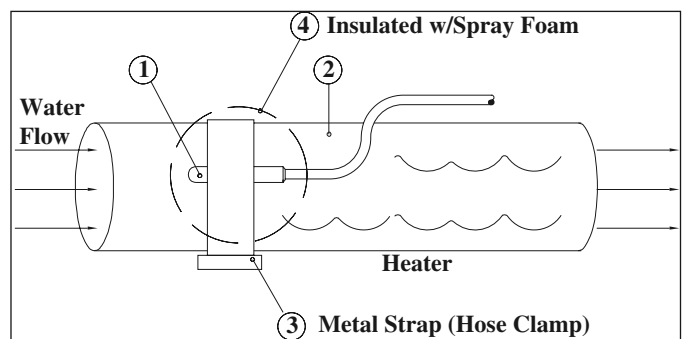

Figure 3: No thermal well cover
1. Locate and place the 1/4" x 1 1/2" high-limit sensor (#1) on the heater (#2). See Figure 3.